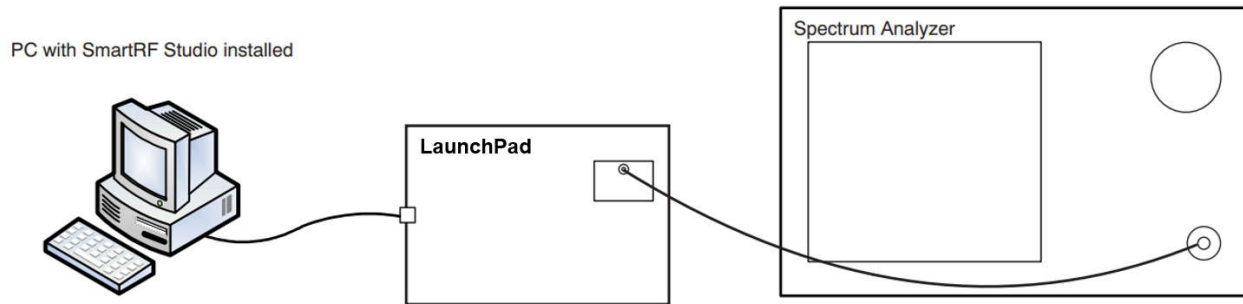
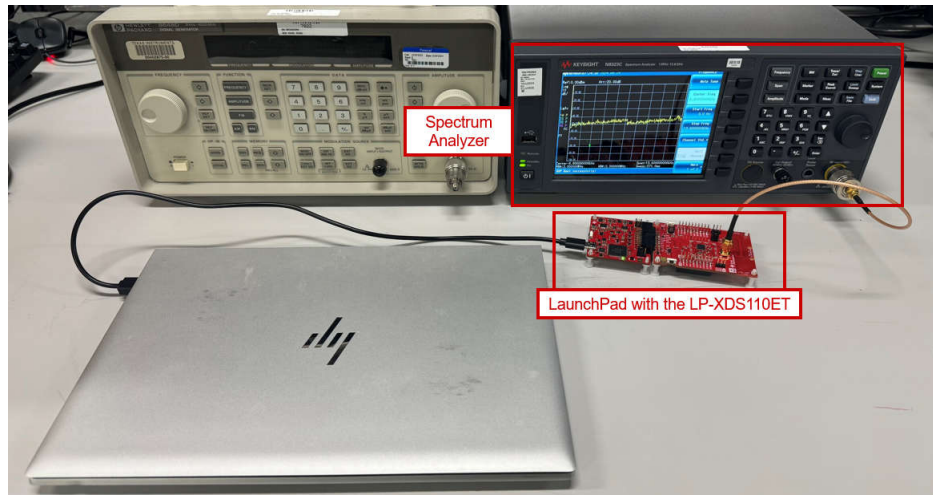

Figure 7-1. Transmission Power Test Setup Diagram
Figure 7-2. Transmission Power Test Bench Setup
Test Environment: Figure 7-1 illustrates the transmission power test setup.
- Step 1: Connect the instruments as shown on Figure 7-1 and Figure 7-2.